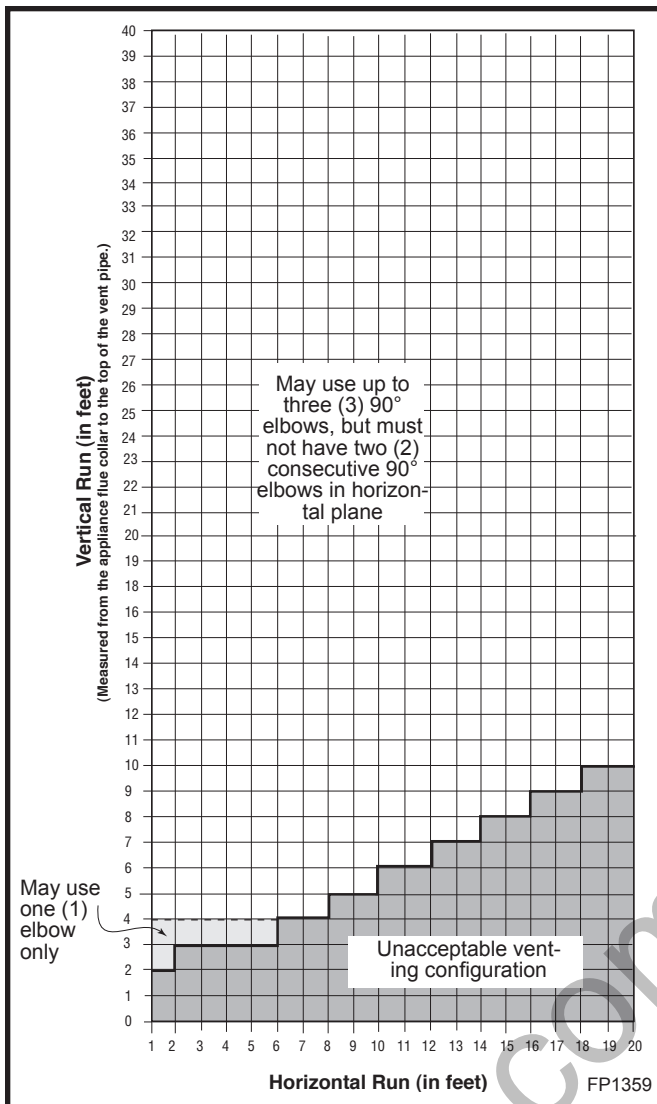

Fig. 15 Horizontal vent termination window.
The vent must rise vertically a minimum of 24" (610mm) off the top of the unit, before the first elbow. The horizontal run may extend up to 20' (6 m) and include a vertical rise of up to 40' (12 m). (Fig. 15) Horizontal termination must also meet the criteria shown in Figures 12 & 13.
- Approved vent systems must terminate above and including the heavy line in Figure 15.
- With a rise between 2' - 4', one (1) 90° or two (2) 45° elbows may be used.